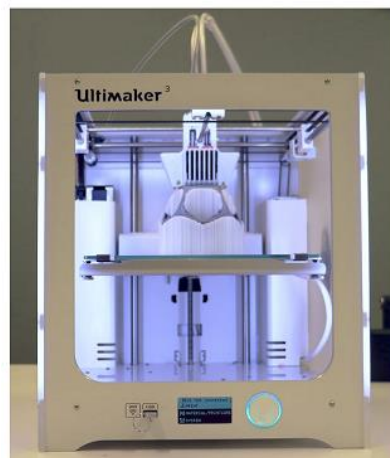

Fig.12.1 3D printer
1. Demonstration of 3D printing machine as shown in Fig.12.1 using Acrylonitrile butadiene styrene (ABS) material
2. Demonstration of 3D printing machine as shown in Fig.12.1 using Polylactic acid (PLA) material.